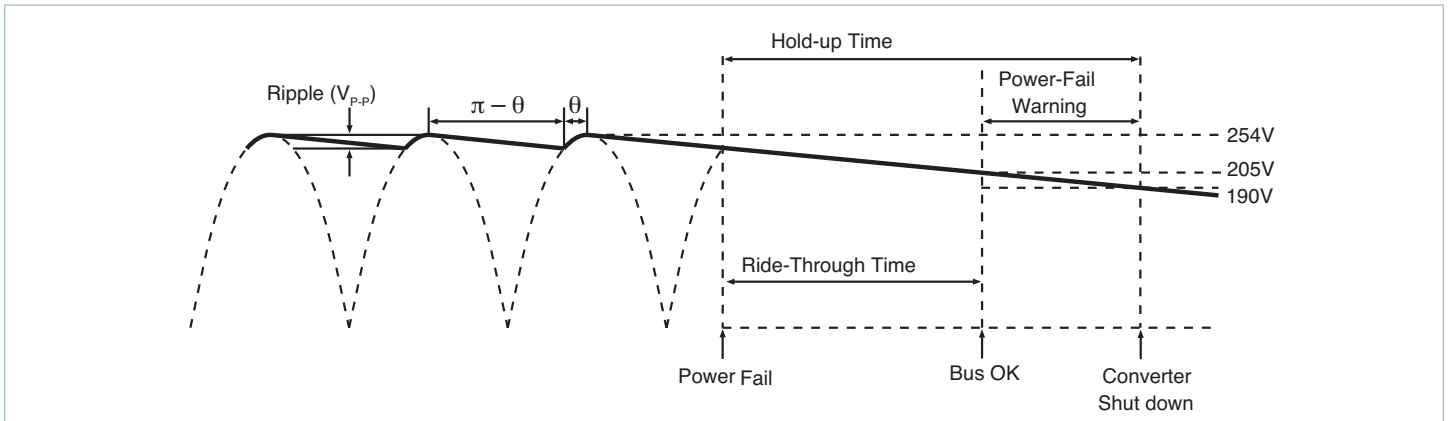

Figure 13 — Hold-up time
**Hold-up Capacitors:** Hold-up capacitor values should be determined according to output bus voltage ripple, power fail hold-up time, and ride-through time (See Figure 13). Many applications require the power supply to maintain output regulation during a momentary power failure of specified duration, i.e., the converters must hold-up or ride-through such an event while maintaining undisturbed output voltage regulation. Similarly, many of these same systems require notification of an impending power failure in order to allow time to perform an orderly shut down.
The power fail warning time ( $\Delta t$ ) is defined as the interval between B OK and converter shut down (EN) as illustrated in Figure 13. The Bus-OK and Enable thresholds are 205V and 190V, respectively. A simplified relationship between power fail warning time, operating power, and bus capacitance is obtained by inserting these constants:
For example, a converter whose output is 15V and nominal input is 300V will provide approximately 56dB ripple rejection, i.e., 10Vp-p of input ripple will produce 15mVp-p of output ripple (See Figure 17). Equation 3 is again used to determine the required capacitance. In this case, V1 and V2 are the instantaneous values of bus voltage at the peaks and valleys (See Figure 13) of the ripple, respectively. The capacitors must hold-up the bus voltage for the time interval ( $\Delta t$ ) between peaks of the rectified line as given by: